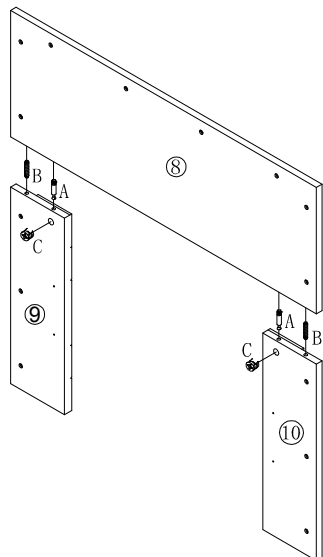

Figure 3
INSERT (B) WOOD DOWEL INTO THE RELATED HOLE OF (7) BASE ,AFTER ASSEMBLED FIGURE 3 ,THEN INERT IT INTO THE RELATED PLACE OF THE MAIN BODY THEN ISERT (D)WOOD SCREW TO THE RELATED HOLES TO CONECT (3) SIDE FRONT PANEL.FINALLY USE SCREWDRIVER TO LOCK TIGHTLY.